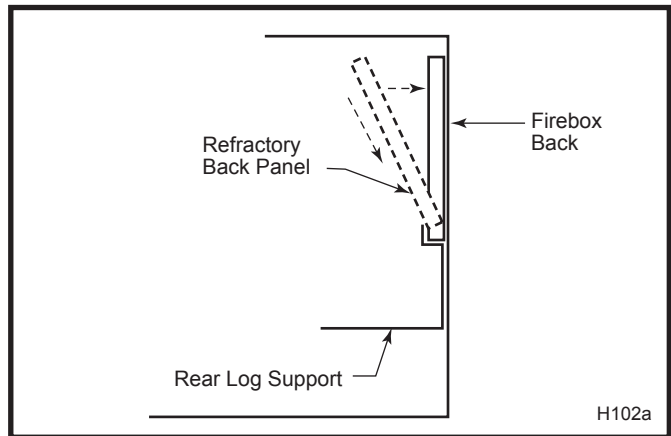

Fig. 41 Place back refractory into support and swing into position.
5. Place back refractory - small brick edge down into support and swing into position. (Fig. 41)